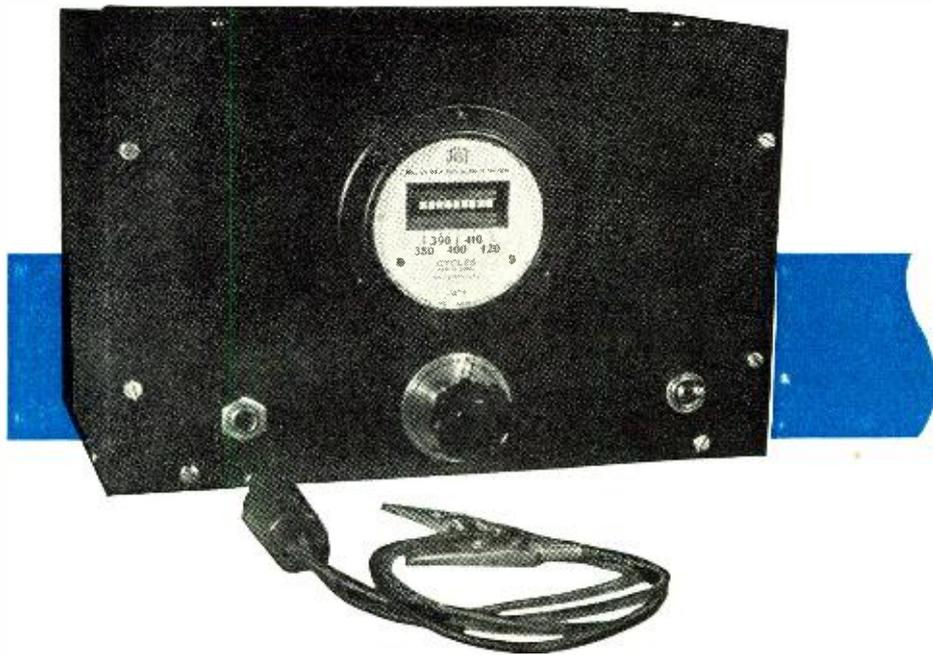

Fig. 3. Front panel view of the completed instrument confirms author's original intentions of a compact and easily constructed versatile test instrument.
Fig. 3. (A) Practical preselector and padded oscillator tuning circuit arrangement employed in many single-band receivers. (B) Typical mica compression-type adjustable padder capacitor. This particular unit has a capacity range of 3-35 $\mu\text{mfd.}$